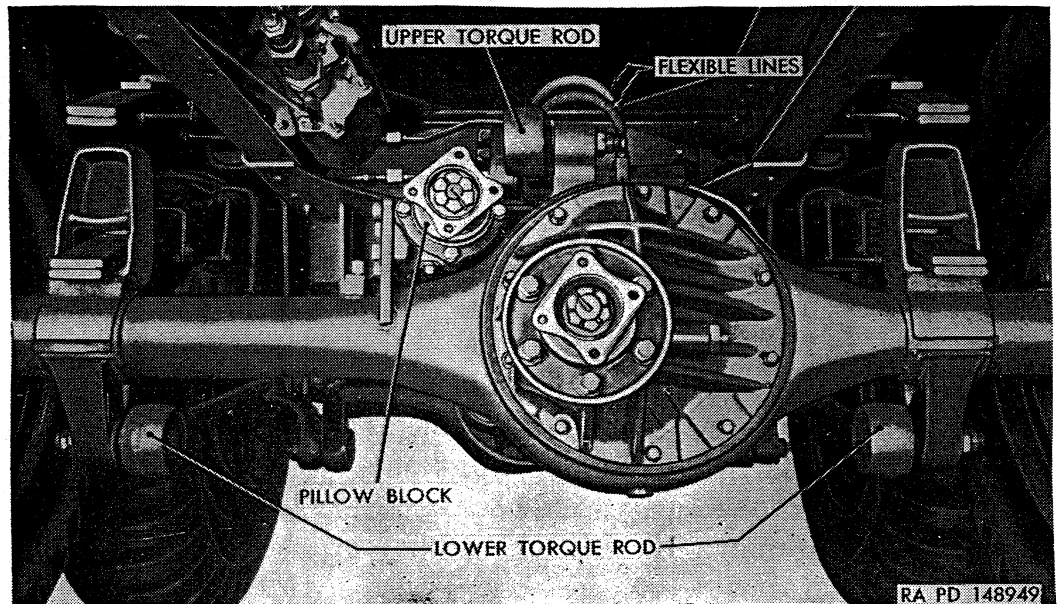

Figure 236. Forward rear axle installed.
c. *Removal* (fig. 236).
- (1) *Position vehicle.* Place vehicle on a level surface and block front wheels to prevent vehicle rolling. Place a jack under axle and raise vehicle until tires are off the ground.
- (2) *Remove wheels.* Remove wheels and tires from each side (par. 259b).
- (3) *Block vehicle.* Place blocks under torque rod support bracket at spring seat on each side to support vehicle after axle is removed.
- (4) *Disconnect flexible hose.* Disconnect hydraulic brake and axle vent flexible hose at junction block on top of axle housing.
- (5) *Disconnect propeller shafts.* Remove four bolts and nuts attaching propeller shaft universal joint flange to differential pinion flange. Remove bolts and nuts attaching propeller shafts to each end of propeller shaft pillow block on top of axle housing.
- (6) *Loosen torque rods.* Remove nuts and washers from three torque rod end pins; then use soft metal hammer to loosen torque rod end pins in axle brackets.
- (7) *Disconnect torque rods.* Remove torque rod end pins from each axle bracket.
- (8) *Remove axle.* Lower axle with jack and pull forward as necessary to disengage main spring ends from axle brackets; then completely remove axle assembly from under vehicle.
- (9) *Remove pillow block.* Remove pillow block from axle (par. 233b).
*d. Installation (fig. 236).*
- (1) *Install pillow block.* Install pillow block on axle (par. 233c).
- (2) *Position axle.* Move axle into position under vehicle and engage main spring ends in openings in brackets at each end of axle housing.
- (3) *Connect torque rods.* Attach three torque rods to axle brackets by installing torque rod end pins in axle brackets. Install washer and 1-14 safety nut on each pin and tighten to 350 to 400 pound-feet torque.
- (4) *Connect flexible hose.* Connect hydraulic brake and axle vent flexible hose at junction on top of axle housing with two connector bolts and four new copper washers. Use one washer on each side of connector. Tighten connector bolts to 20 to 30 pound-feet torque.
- (5) *Connect propeller shafts.* Position respective propeller shafts to differential pinion flange and to each end of pillow block assembly, with lubrication fittings in same plane as other shafts; then install four bolts and  $\frac{7}{16}$ -20 safety nuts at each location. Tighten nuts to 33 to 43 pound-feet torque.
- (6) *Install wheels.* Install wheels on hubs (par. 259c).
- (7) *Remove blocks and jack.* Raise vehicle with jack as necessary to remove block from under each torque rod support bracket at spring seat. Lower jack and withdraw from under vehicle.
- (8) *Bleed brakes.* Perform brake bleeding operation (par. 237).
- (9) *Lubricate.* Check lubricant level in axle differential (par. 224b). Lubricate propeller shaft universal joints and pillow block as directed on lubrication chart (par. 69).
- (10) *Check for lubricant leaks.* Check for lubricant leaks around housing cover. Tighten cover stud nuts to 45 to 55 pound-feet torque.